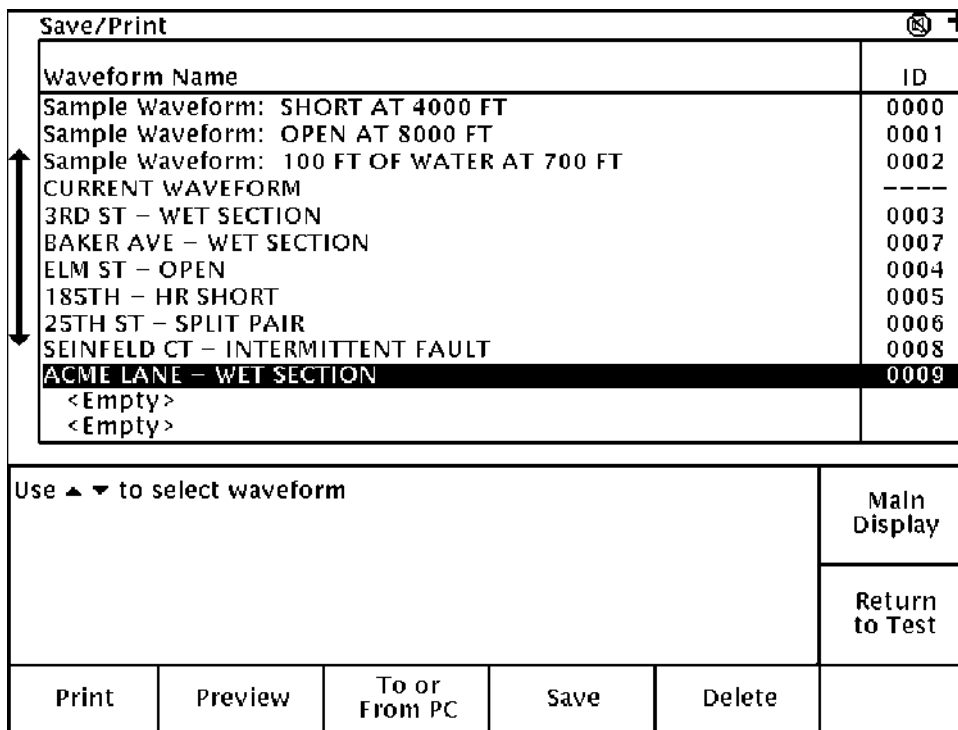

Figure 16-4. Save/Print Menu (saved).
our waveform notes (see Figure 16-4).
Step 8. Press Exit or Done. This returns you to the same screen as in Figure 16-4. You can either print the cur-